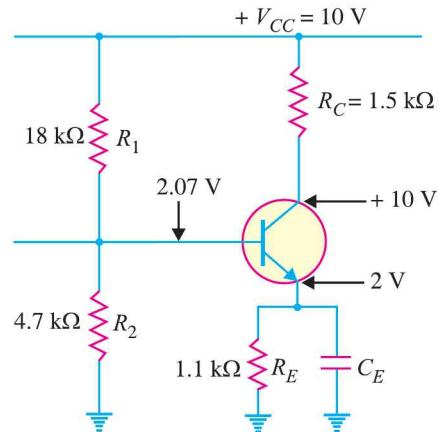

Fig. 9.47
**Example 9.39.** What fault is indicated in Fig. 9.47? Explain your answer with reasons.